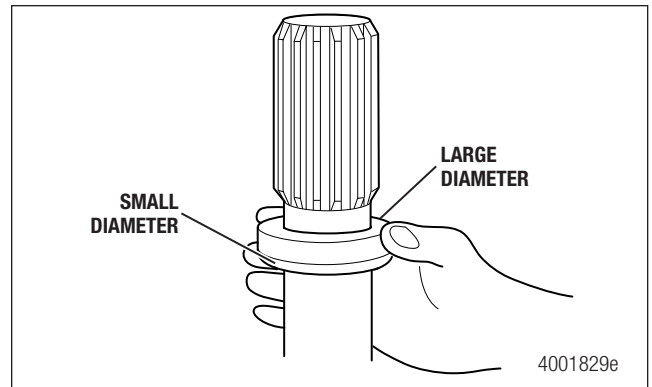

Figure 9.11
4. Install the new seal onto the spline shaft neck. Ensure that the small diameter side fits onto the splines first. Figure 9.11.